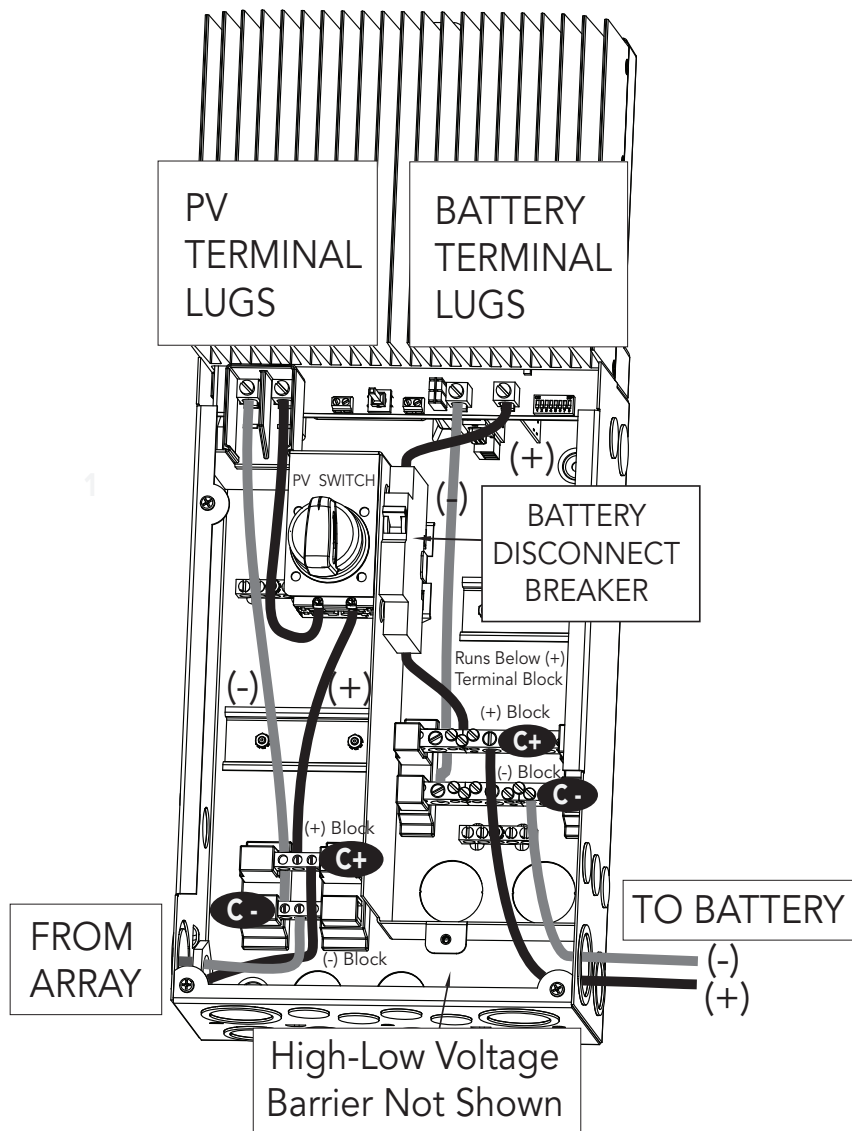

Figure 3-15. Power Terminal Locations
Connect the four (4) power conductors shown in figure 3-15 as described in the following steps:
2. Pull solar and battery wires into the Disconnect Box (DB). The Remote Temperature Sensor (RTS) and Battery Sense wires can be routed inside conduit along with the battery power conductors, if required. The RTS and Battery Sense wires CANNOT be routed in the same conduit with the high voltage solar conductors, unless rated for 600V. It is easier to pull the RTS and Sense wires before the power cables.